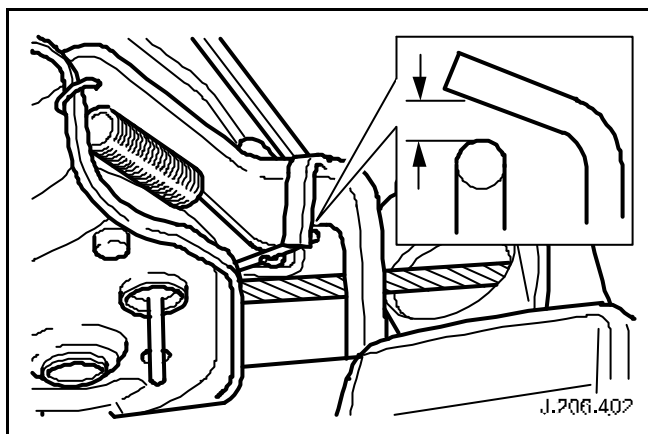

Fig. 1
- 4 Using suitable pliers, bend the clutch spring stop away from the clutch spring to obtain a 0.2mm gap. (See Fig. 1) Measure gap using feeler gauges.